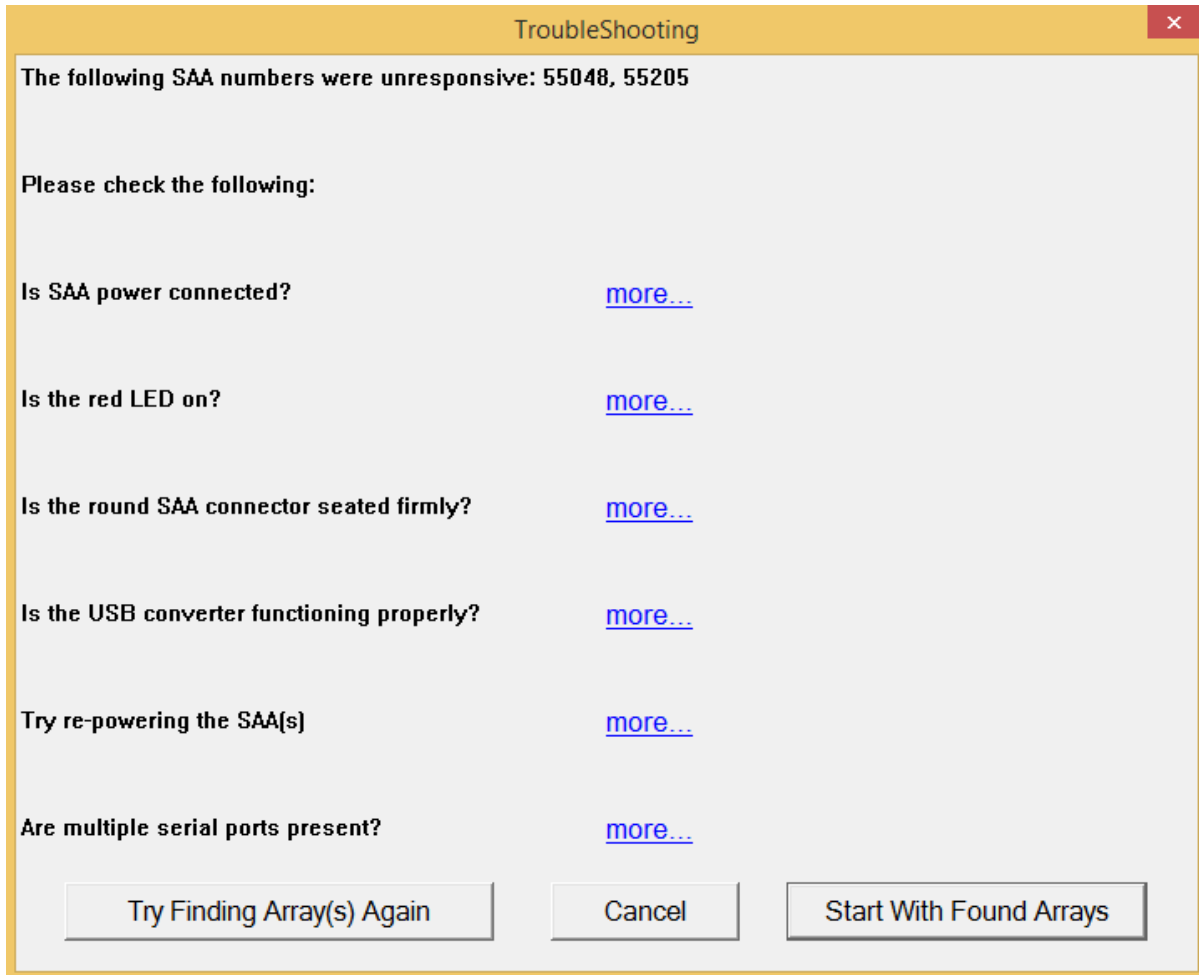

Figure 6.61: 'Troubleshooting' window.
2. A 'Troubleshooting' window opens, see **Figure 6.61**.